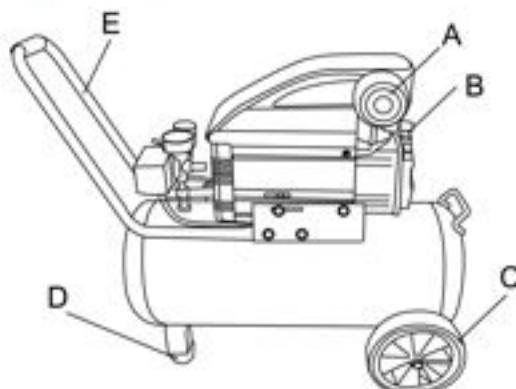

FIGURE 7
Your compressor requires some assembly. Install intake filter (A) Fig.7 to the cylinder cover.